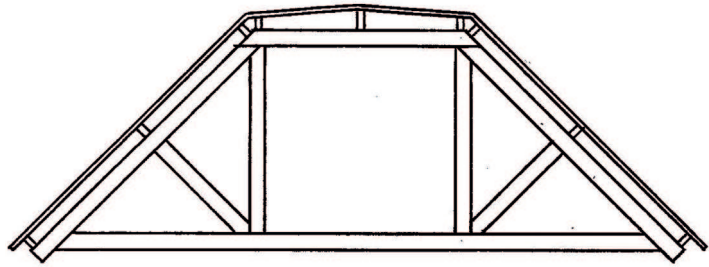

Figure 21
3. Figure 21 is a drawing of another type of queen-post truss. Shade the queen-posts on the drawing.